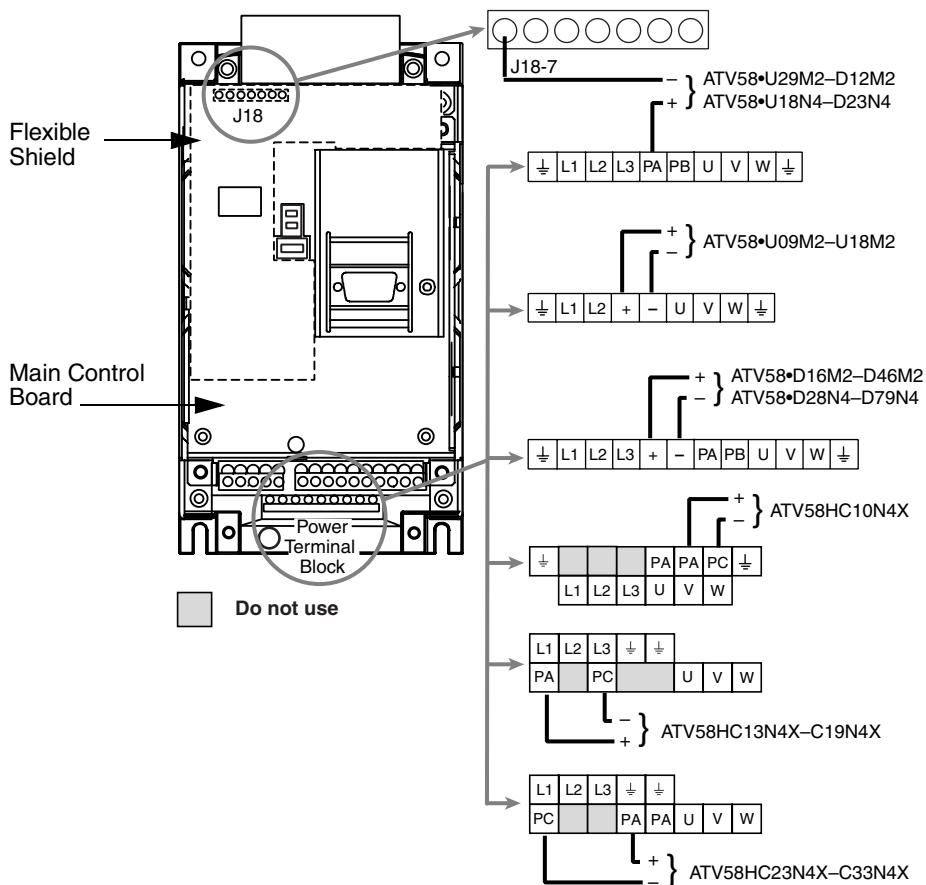

Figure 19: DC Bus Measurement Terminals
The DC bus voltage level is determined by monitoring the (+) and (–) measurement points. Their location varies by drive controller model number as listed in Table 19 and shown in Figure 19 on page 44. The drive controller model number is listed on its nameplate.
3. Read the model number of the drive controller from the nameplate and identify the corresponding (+) and (–) measurement points from Table 19 and Figure 19.